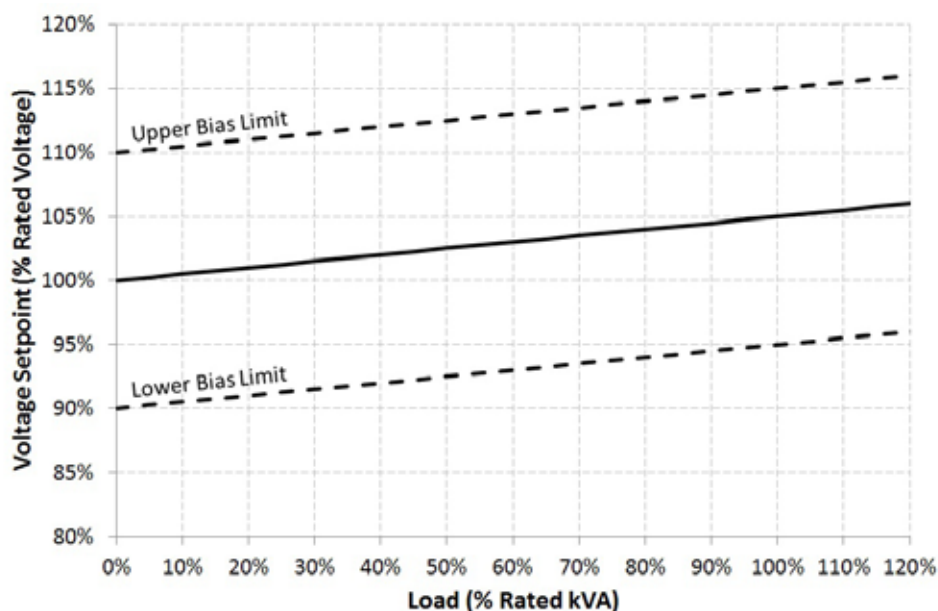

Figure 35.10 – Line Loss Voltage Setpoint Change Based on Total (kVA) Load
For example, if it is observed that the voltage at the load side of the feeder line has decreased by 5% from rated voltage when the generator is supplying rated kVA load, the Voltage Regulator (IR) Compensation Percentage should be set to 5.0%. In this case, the output voltage measured at the generator terminals will increase from 100% to 105% of rated voltage as the generator load increases from 0% to 100% of rated kVA, as illustrated in Figure 35.10.
If a bias is applied to the voltage setpoint from an external source, the IR compensation percentage is applied to the nominal setpoint plus the bias percentage. For example, if a +10% or -10% bias were applied to the nominal voltage, the voltage setpoint would increase linearly as shown by the Upper and Lower Bias Limit dashed lines indicated on the diagram presented in Figure 35.10.